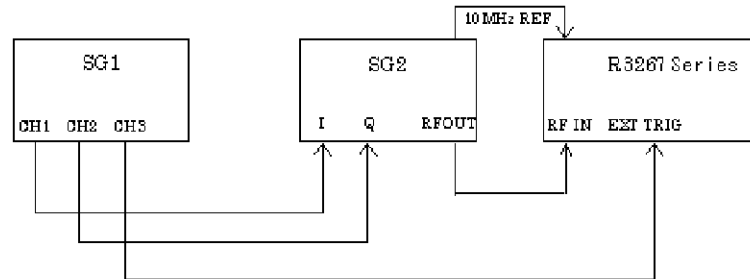

Figure 6-4 Setup of Waveform Quality Test for Reverse Link
1. Connect equipment as shown in Figure 6-4.